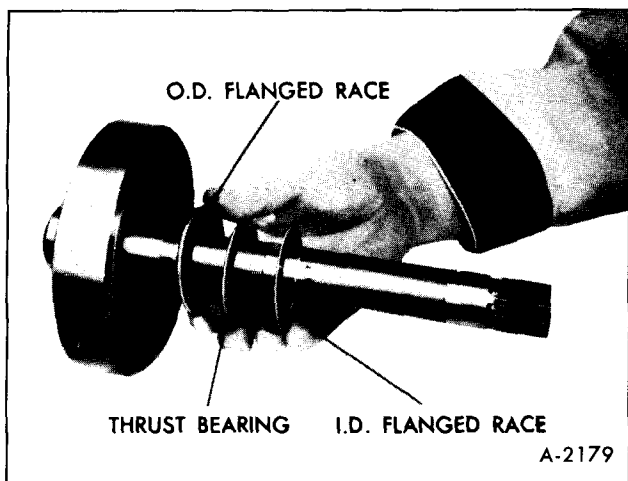

Figure 62—Thrust Bearing Installation
a. Install large diameter race first, with flange facing up, Figure 62.